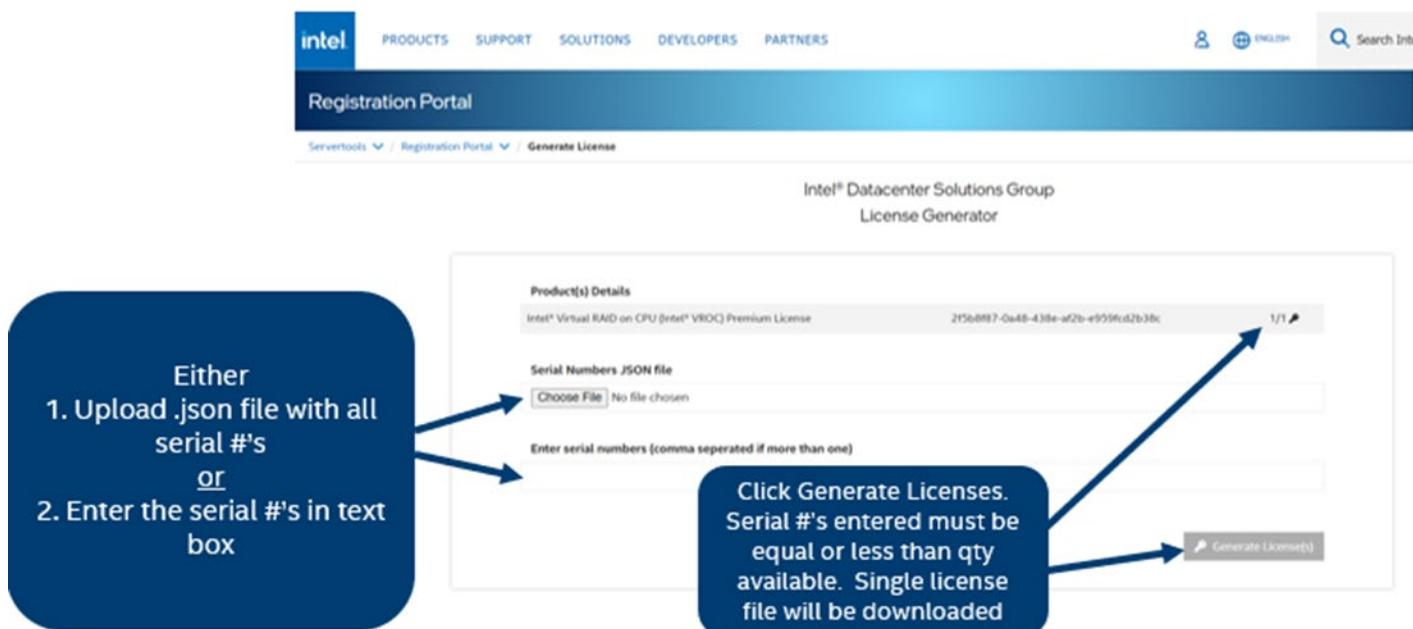

Figure 108. Activate Key for Intel® Virtual RAID on CPU Standard/Premium Software Key
- Multiple board serial numbers can be entered in the text box or by uploading a .JSON file with the list. Only a single license file will be downloaded. This single license file will work with all systems that match one of the serial numbers. (see Figure 108)